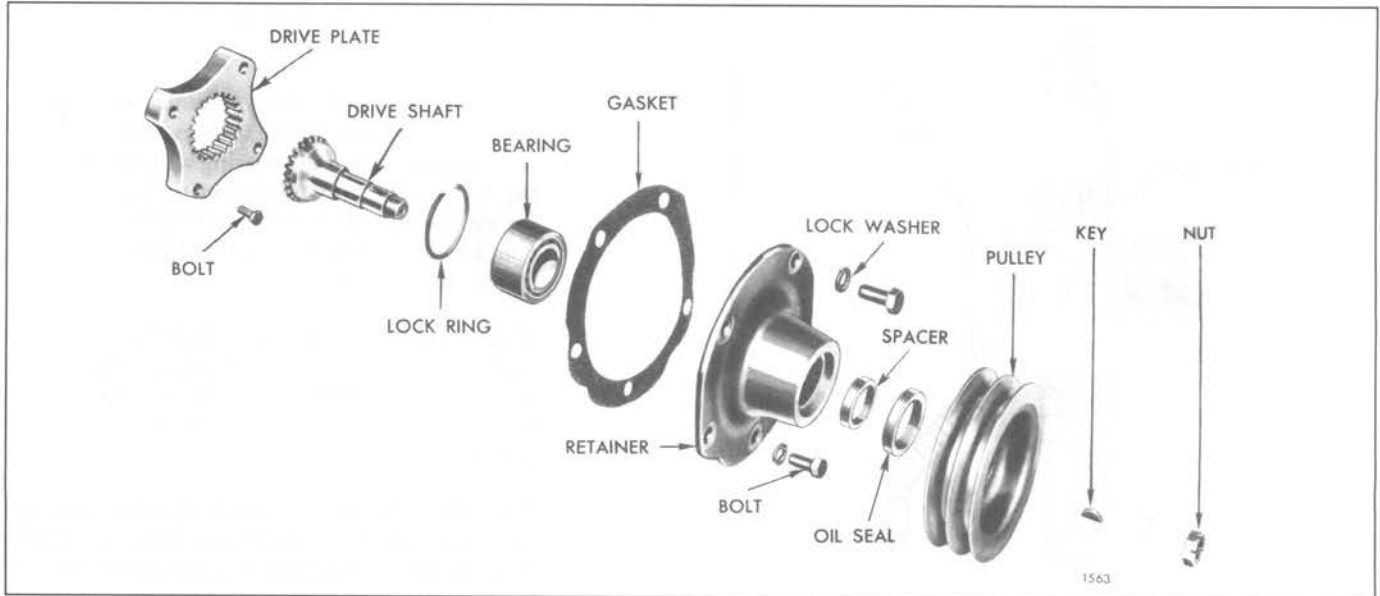
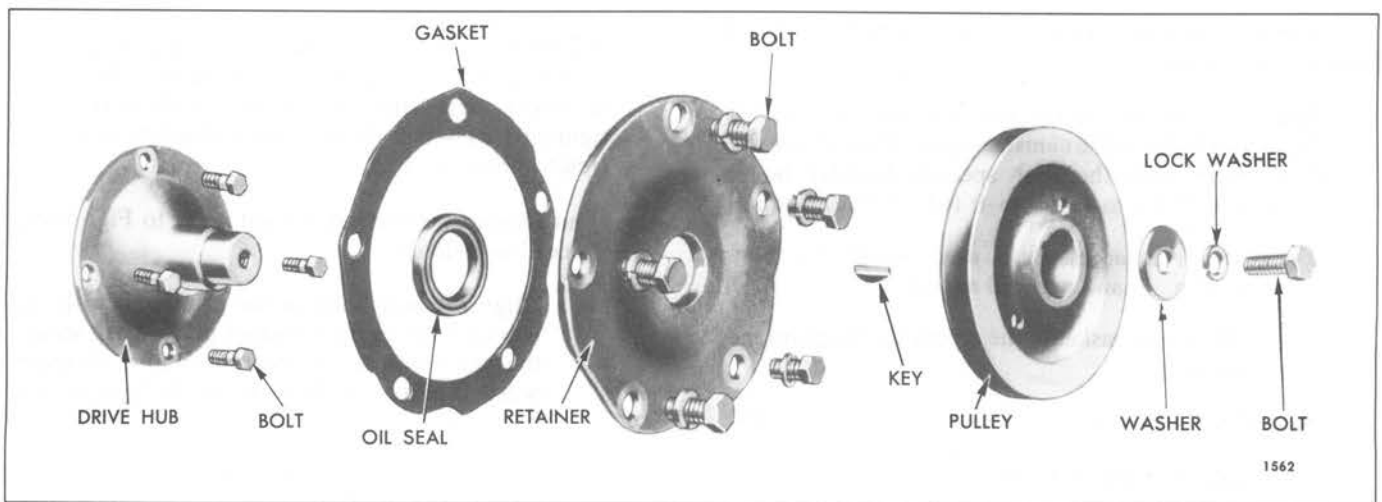
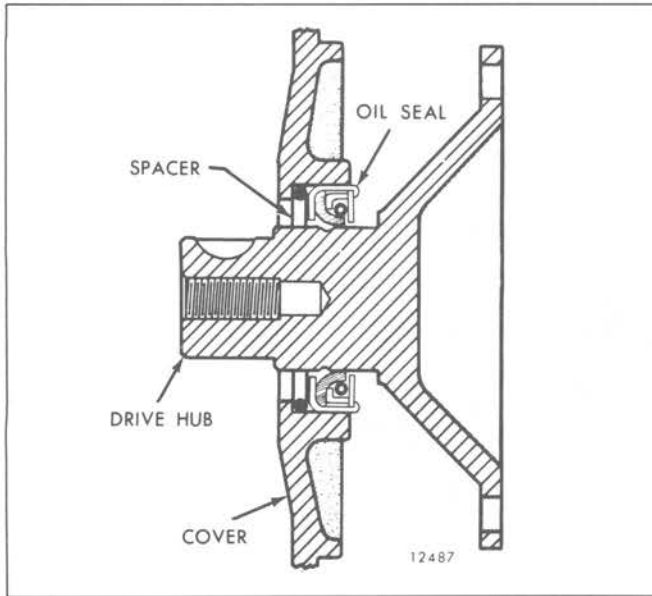

Fig. 4 – Components of Accessory Drive for Belt-Driven Accessory (Drive Plate Type)
Fig. 5 – Components of Accessory Drive for Belt-Driven Accessory (Drive Hub Type)
Fig. 6 - Location of Oil Seal Spacer
For a belt-driven accessory, a drive shaft is used in place of the drive coupling. One end of the drive shaft is splined to the drive plate and the other end is supported by a bearing in the accessory drive retainer which is attached to the flywheel housing (Fig. 4). A drive pulley, attached to the outer end of the drive shaft, is connected by belts to the pulley on the accessory which is mounted above the flywheel housing.
On some engines, an accessory drive hub is bolted directly to the camshaft gear (Fig. 5). An oil seal retainer is bolted to the flywheel housing and the pulley is keyed and secured to the hub with a bolt, lock washer and plain washer.
Refer to Figs. 4 and 5 and remove the accessory drive used with a belt-driven accessory as follows:
6. Remove the accessory drive shaft from the retainer (Fig. 4).
7. Remove the snap ring and ball bearing from the accessory drive retainer (Fig. 4).
Remove and discard the oil seal. Also inspect the oil seal contact surface of the drive shaft (Fig. 4) or drive hub (Fig. 5) for grooving. If the shaft is grooved and cannot be "cleaned-up", replace it.
If the drive hub (Fig. 5) is grooved to a point where the effectiveness of the oil seal is lost, a ring-type oil seal spacer is available which serves to reposition the seal and provide a new sealing surface for the lip of the oil seal (Fig. 6).
3. If a belt-driven accessory is used, refer to Fig. 4 and proceed as follows:
4. If an accessory drive hub is used, refer to Fig. 5 and proceed as follows:
- 5. If a step-up gear is used, refer to Fig. 6 and proceed as follows: